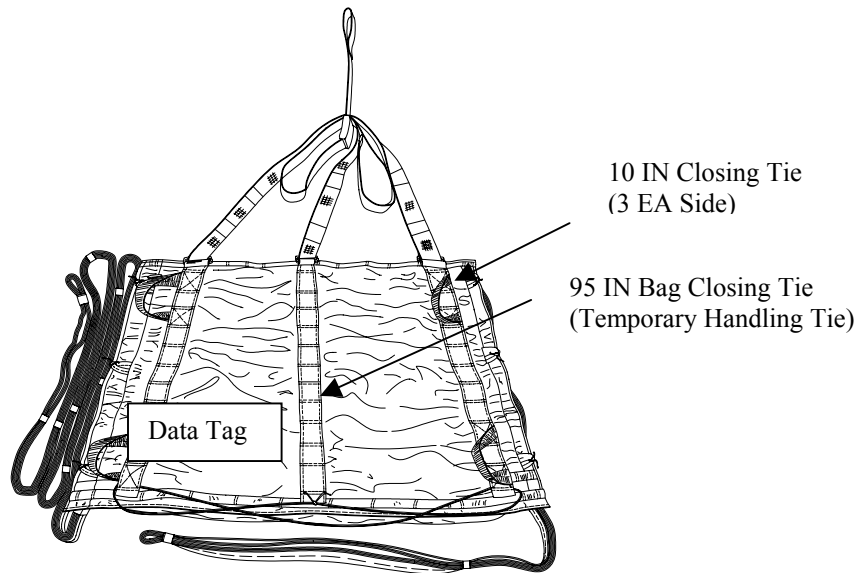

Figure 12. Temporary Handling Tie.
- g. Beginning at upper top center bridle attaching loops, pass one end of remaining 95-inch closing tie (temporary handling tie) through top center, bottom right, top right, bottom center, top left, bottom left and back through top center loops. Remove slack from tie and secure ends with a surgeon's knot and locking knot (figure 12).